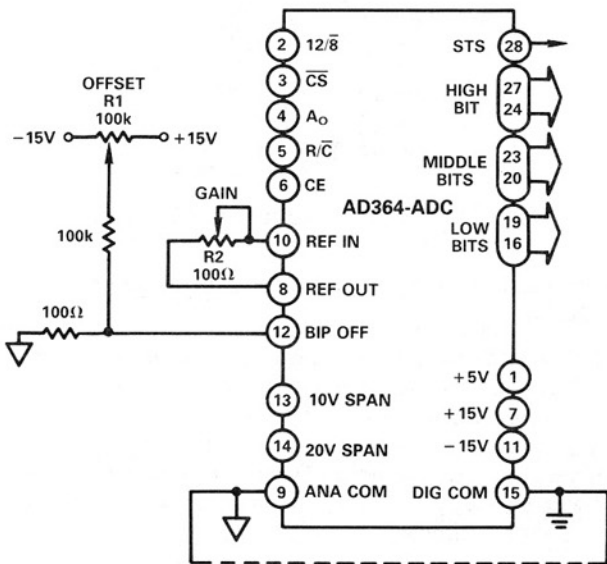

Figure 10a. Unipolar Gain & Offset
Offset Adjust, AD364-ADC: Offset adjust circuits for unipolar and bipolar operation are shown in Figures 10a and 10b. In each case the potentiometer should be a multi-turn, low temperature coefficient device, such as 20-turn cermet. Lowest offset drift in unipolar operation will be realized when the fixed resistors are low-TC ($100 \text{ ppm}/^\circ\text{C}$) metal-film types.
*Refer to Figure 10a for gain and offset adjustments.